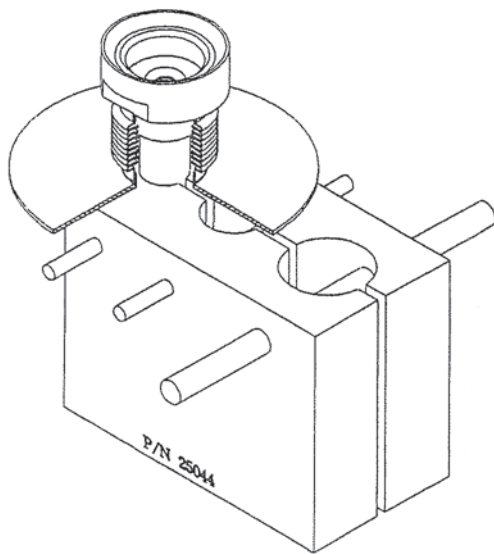

Figure 9.3
9. Thread the **Disc Holder** [6] onto the **Stem Retainer** [14] using a special assembly block (see **Figure 9.3**). Do not attempt to hold the **Stem Retainer** [14] on the guiding surface. Thread the **Lock Screw** [19] counter clockwise until contact is made with the **Disc Holder** [6]. Tighten to lock the assembly together.